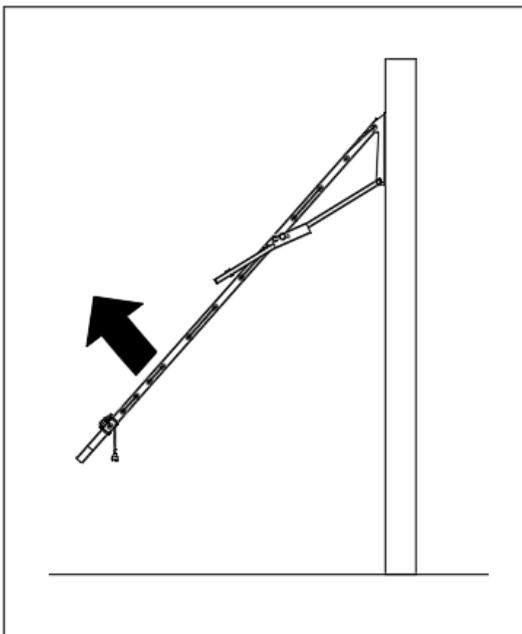

Fig 10. To Extend.
- Using both hands grab the front bar in the centre and lift upward and outward. (Fig 10)